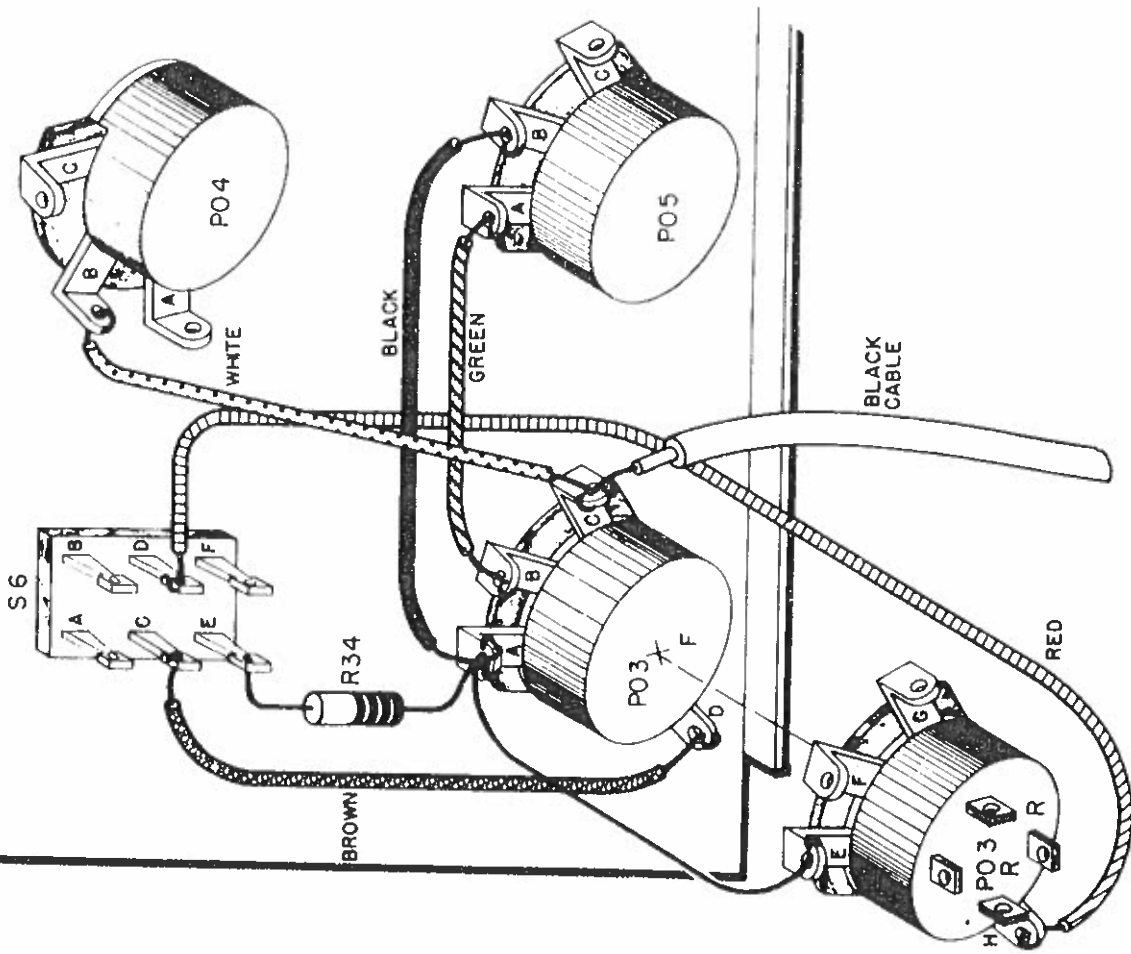

Figure 2-1
Refer to Fig. 2-1 for the following steps:
- Step 2F**  Connect the other resistor lead to lug E of switch S6 — cut it as short as possible as shown in Fig. 2-1.